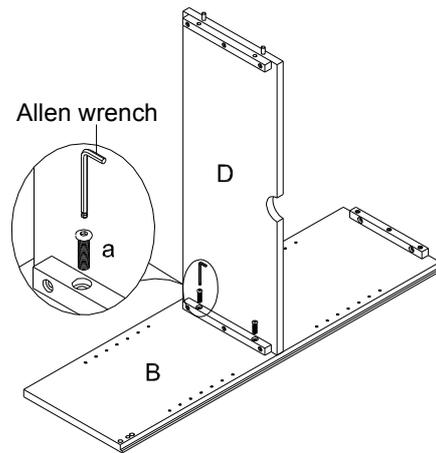

Fig.1
1. Attach the center shelf (D) to the left side panel (B) aligning the exposed dowel on one end of panel with pre-drilled hole on the center of left side panel (B) and using bolt (a). Securely tighten all bolts with Allen wrench, but do not over tighten the bolts. (Fig.1).